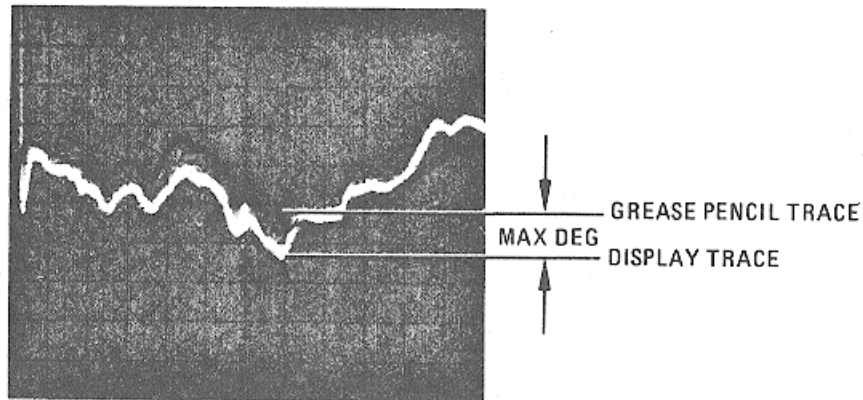

Figure 8. Transmission Frequency Response Phase
- (1) Set 8505A Signal Processor Channel 2 SCALE/DIV switch to 90 DEG.
- (2) On 8505A Signal Processor Electrical Length press the LENGTH pushbuttons and adjust VERNIER B control to display a horizontal trace on the CRT.
- (3) Set 8505A Signal Processor Channel 2 SCALE/DIV switch to 2 DEG and repeat step h (2).
- (4) On 8505A Signal Processor Channel 2 press MKR and ZRO pushbuttons.
- (5) On 8505A Signal Processor Channel 2 press the REF OFFSET pushbuttons to center the display around the grease pencil phase trace.
- (6) Measure the maximum difference between the grease pencil trace and the display trace (Figure 8). This measured value should be $\leq 8^\circ$.